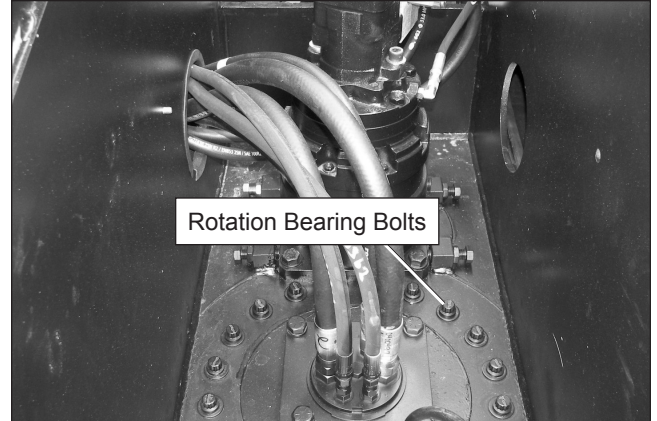

Figure 7.20 – Inside Turntable
3. Raise the main boom to access the rotation bearing bolts in the turntable (refer to Figure 7.20).